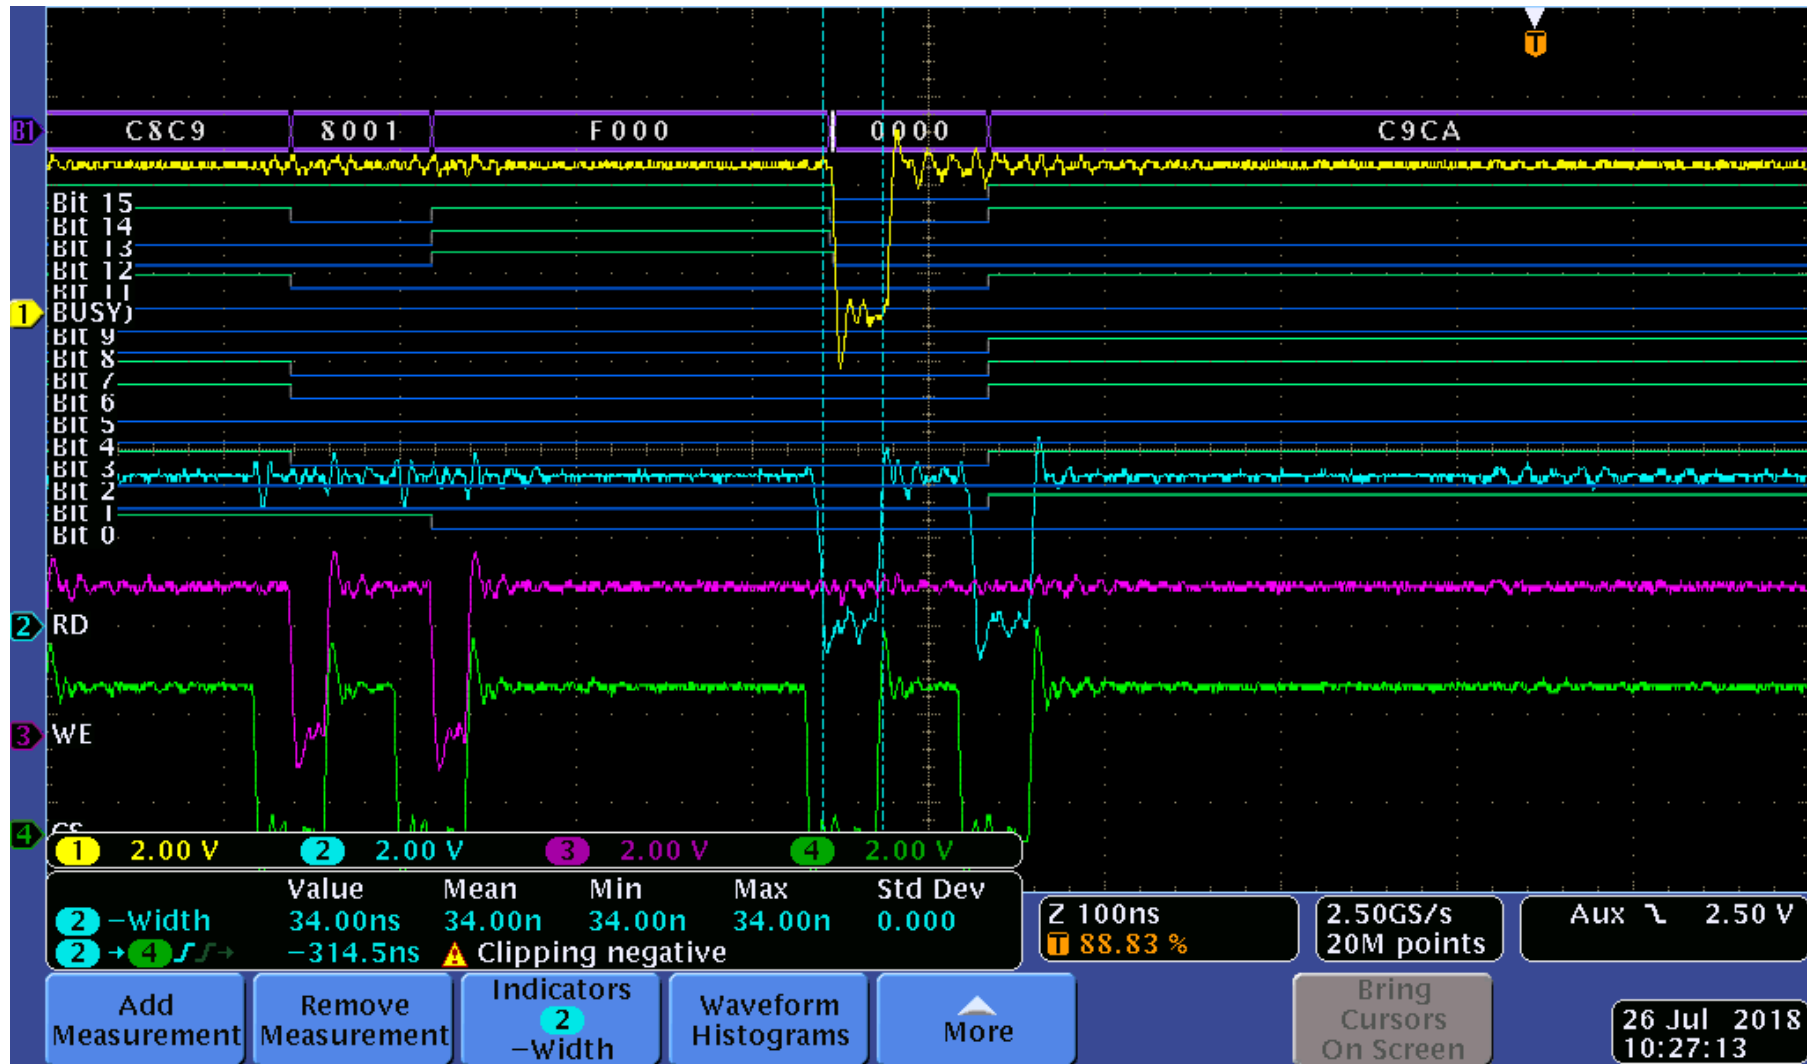

Figure 1: Reading data from 0x8001 F000. Expected value: 0xC7C8 C9CA. Read value: 0x0000 C9CA.
- a) With setting XRDACTIVE = 4, the xReady signal is ignored. (see Figure 1)